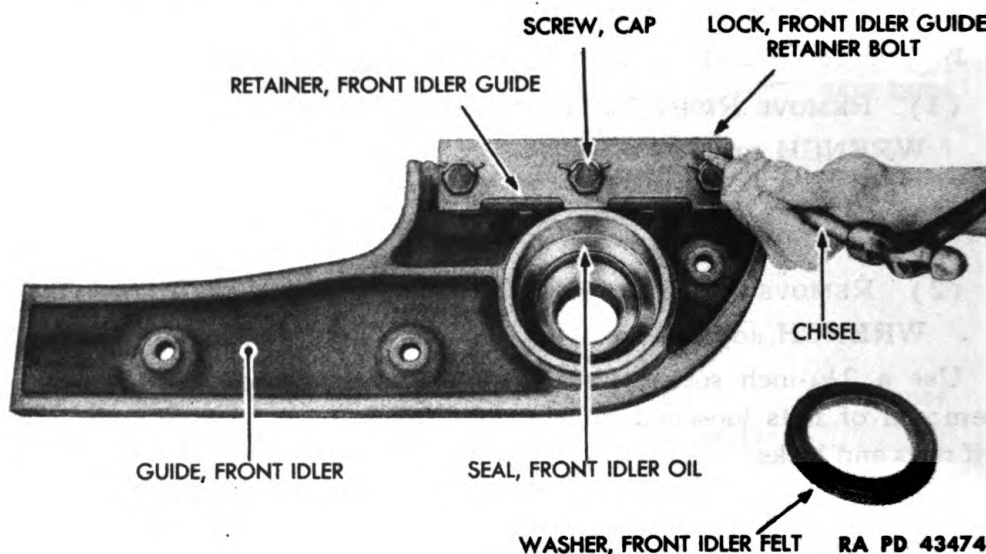

Figure 151 — Front Idler Guide Retainer Removal
(9) REMOVE FRONT IDLER GUIDE RETAINER FROM INNER AND OUTER IDLER GUIDES (fig. 151).
(10) REMOVE FRONT IDLER OIL SEAL FROM INNER AND OUTER IDLER GUIDES (fig. 151).